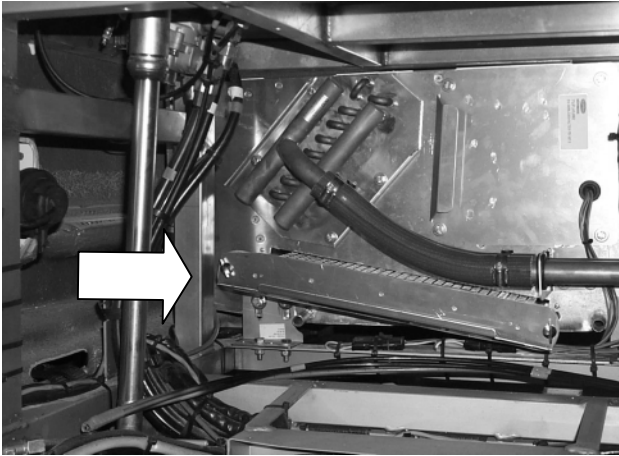

Figure 2: Front unit air filter assembly
- 2) Locate the air filter assembly (Figure 2).